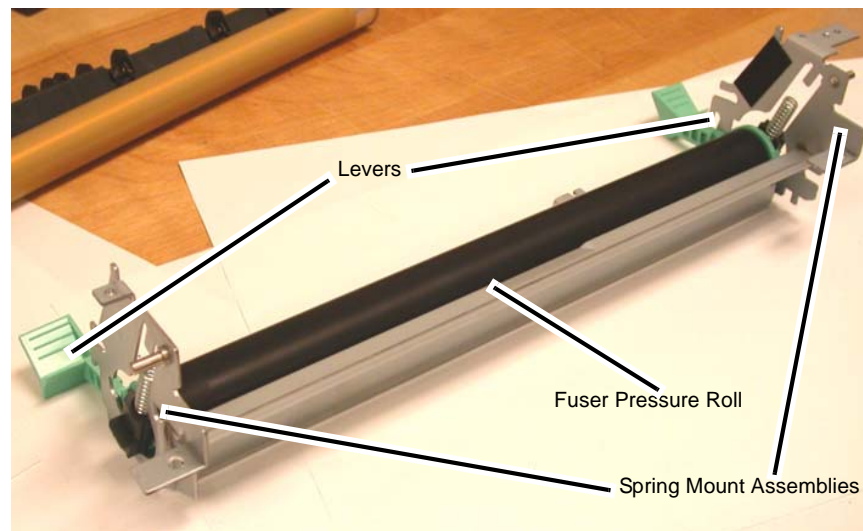

Figure 2 Removing the Fuser Pressure Roll
3. Remove the Fuser Pressure Roll (Figure 2).